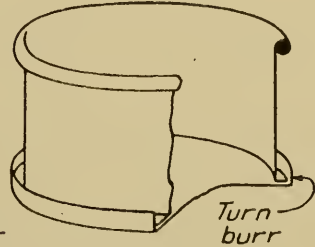

FIG. 5.
11. Turn burr on bottom with burring machine. (Fig. 5.)